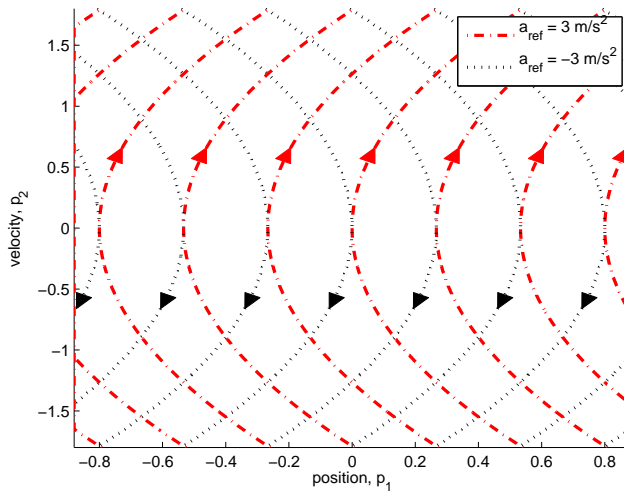

Figure 3 Trajectories for $a_{ref} = a_{max} = 3\text{ m/s}^2$ and $a_{ref} = -a_{max} = -3\text{ m/s}^2$
Phase plane trajectories for some values of C_1 and C_2 , when $a_{max} = 3m/s^2$, are plotted in Figure 3.
- The system should be controlled to the origin. Decide graphically from Figure 3 the regions of the state space where a_{max} and $-a_{max}$ should be used respectively to achieve this. Draw the switching curve between the two regions.
- Determine an equation $f(p_1, p_2) = 0$ that describes how p_1 and p_2 relate to each other on the switching curve. (*Hint*: First determine the constants, C_1 and C_2 , in (6) and (7). Then put the equations together. To do this you will need to use $\text{sign}(p_2)$.)